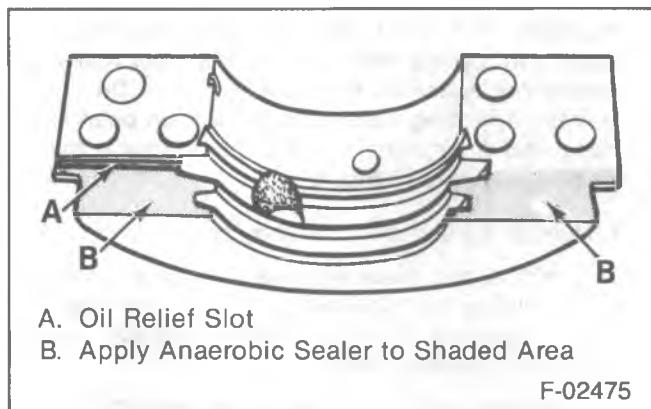

Figure 34—Applying Sealant to the Main Bearing Cap
- Apply a thin film of anaerobic sealant (GM part number 1052756 or equivalent) to the bearing cap as shown in figure 34. Keep the sealant off the seal and bearing. Do not put sealant in the bearing cap oil relief slot.